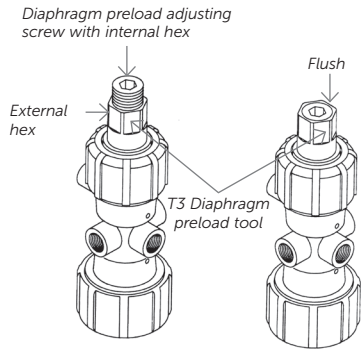

Figure 4.
7. Refer to Figure 4, and make sure the diaphragm preload tool (T3) adjusting screw is out 12.7 mm (½"). Place the diaphragm preload tool (T3) onto the retainer nut (P14) and secure it in place with the outer cap (P17). (See Figure 4.)
8. While holding the diaphragm preload tool (T3) external hex with an adjustable wrench (S5) to prevent it from rotating, turn the internal hex on top of the diaphragm preload tool (T3) with the ⅜" allen wrench (S6) clockwise until it is flush with the top surface of the diaphragm preload tool (T3). (See Figure 4.)